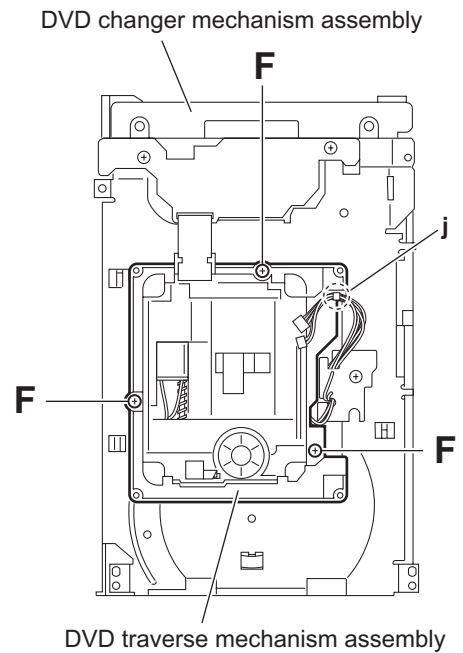

Fig.11
3.3.6 Removing the DVD traverse mechanism assembly (See Fig.11)